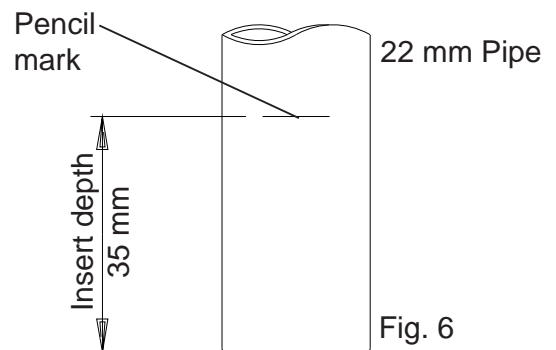

Fig. 6
Ensure the pipe is free from all score marks and deformities in the area of the insertion depth (Fig. 6) and cut the pipe square removing all burrs and sharp edges to prevent damage to the sealing 'O'-ring.
2. Prior to inserting pipe into fitting mark the insertion depth on the wall of the pipe with a soft pencil at a distance of 35 mm from the end to be inserted (Fig. 6).